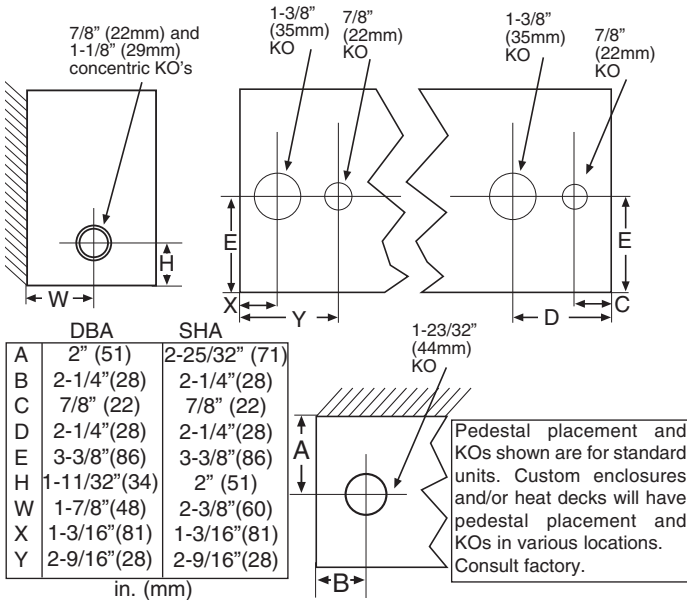

Fig. 2
1. Run branch circuit of proper voltage and wire size to location of left or right junction box as indicated on heater wiring diagram. Basic heaters are prewired and can be connected to branch circuit at either end. Heaters with controls are prewired for connection to branch circuit at one end only (refer to heater wiring diagram). However, heater can be wired from opposite end by running wires through heater wireway. See Fig. 2 for knockout locations.
3. Remove appropriate electrical knockouts from either junction box. See Fig. 2 for location of knockouts. If heater is to be
2. Refer to wiring diagram for power supply entry and remove appropriate electrical knockout (Fig. 2) from the heater in which power supply connections are to be made. The power supply may be brought into the end of one heater and the remaining heaters may be connected in parallel using the wireway. Use Table B to size the field installed wiring in the wireway or use Table C to determine the maximum length or heater run possible using the factory installed wire in the heater wireway. If units are to be pedestal mounted, consult pedestal kit installation instructions.